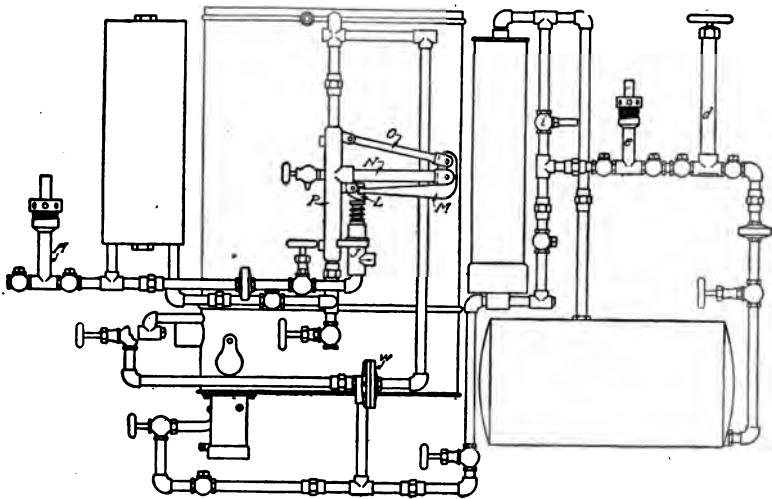

Fig. 54. Diagram of Connections for Ofeldt Boiler Feed and Fuel Systems
**Ofeldt. Fuel, Water, and Steam Connections.** Fig. 54 gives a clear idea of the fuel, water, and steam connections of the Ofeldt